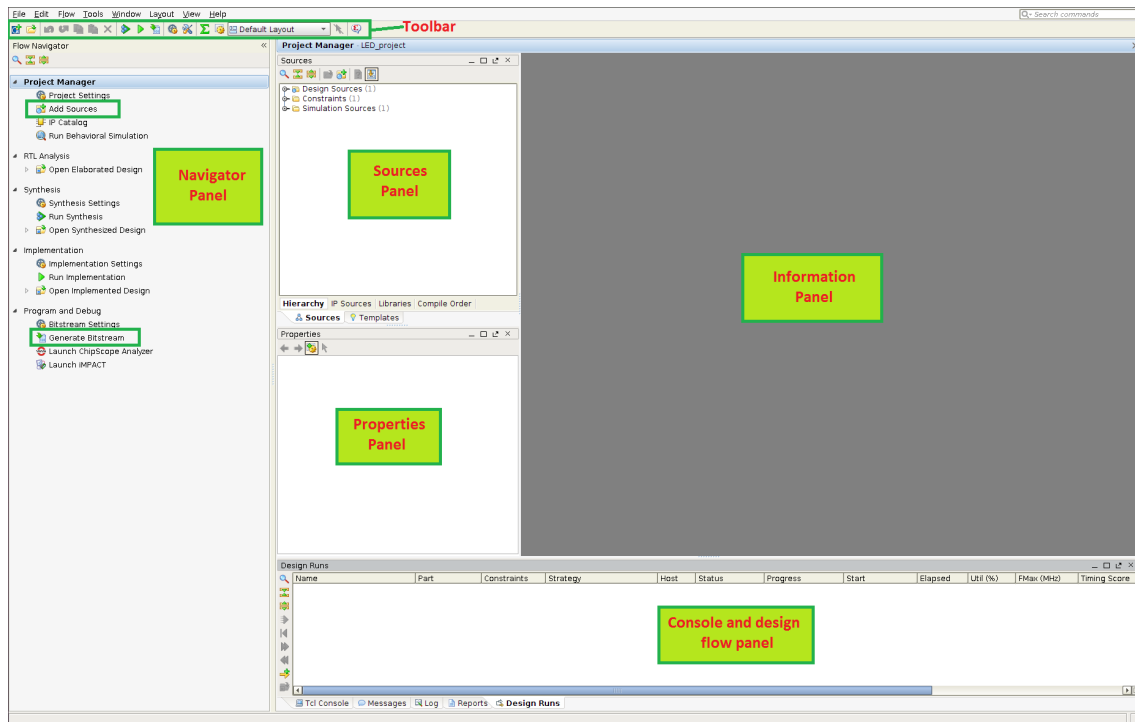

Figure 4.2.: PlanAhead window and its different panels.
1. To add embedded source, in the Navigator panel (on left side) click *Add Sources* (Figure 4.2).